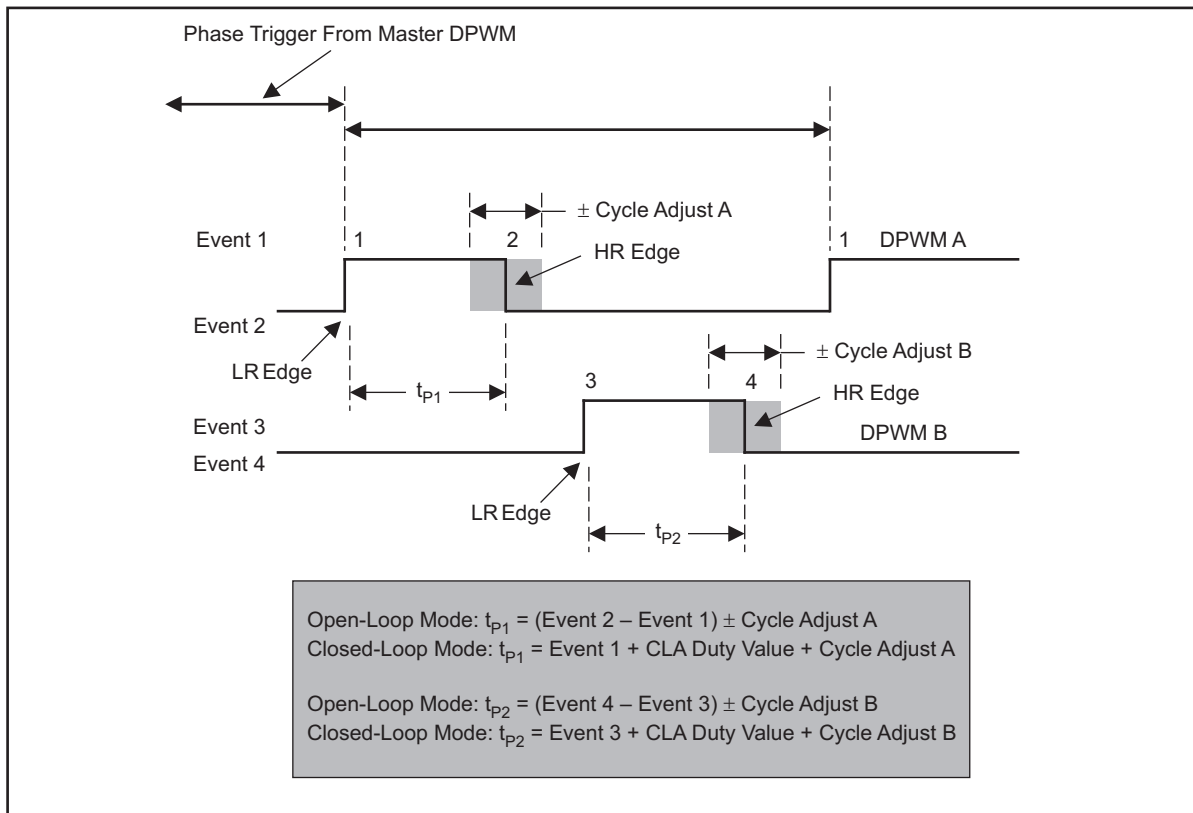

Figure 11. Multi-Output Mode – DPWM Timing Diagram
- While applying a $-ve$ cycle adjust to DPWM B, the minimum on-pulse width (calculated value of t_{p2} in Figure 11) should be limited to 0. A $-ve$ value for the DPWM B on-pulse width is not valid.